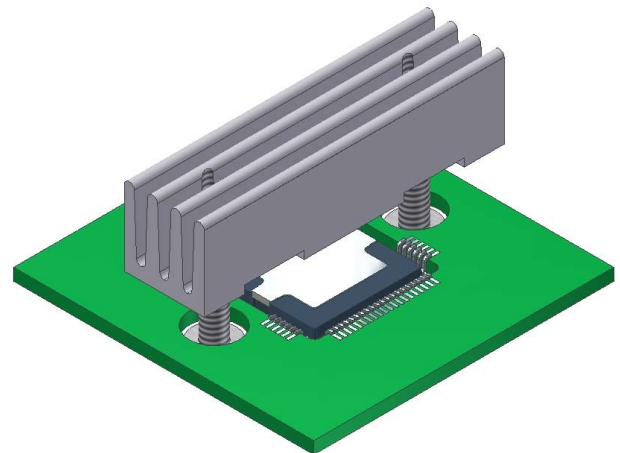

Figure 2 – User Control Features
Figure 2 shows the user control features of the DB63. The PWM duty cycle is controlled with the potentiometer (1 in figure 2). The power LED (2) will illuminate when the 12V supply is connected. The DB63 will power up with the SA57 disabled. The enable button (3) will toggle the SA57 on and off with the LED (4) illuminating to indicate the enable status. Direction of the motor is similarly controlled with the button (5) and is indicated by the LED (6). The DB63 monitors the Temperature warning status pin of the SA57. If this pin goes high an LED (7) illuminates and the enable circuit is forced to a disable status. The temperature LED is not latched and may stay illuminated only briefly while the temperature of the SA57 is above 135°C. The temperature decrease rapidly via the heatsink once the SA57 is disabled.